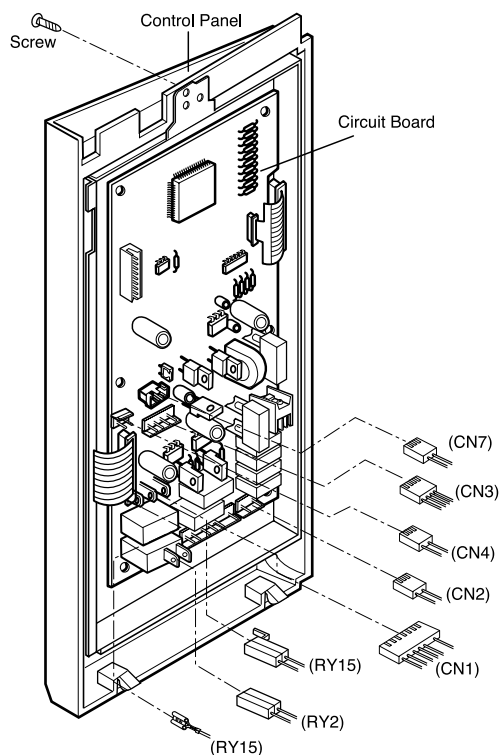

Figure 1
A. REMOVING POWER AND CONTROL CIRCUIT BOARD (Figures 1, 2 and 3)
- (1) Remove a screw securing the control panel assembly to the oven cavity.
- (2) Remove the control panel with pushing it upward.
- (3) Remove the connectors, and sensor, wire leads, from the circuit board.